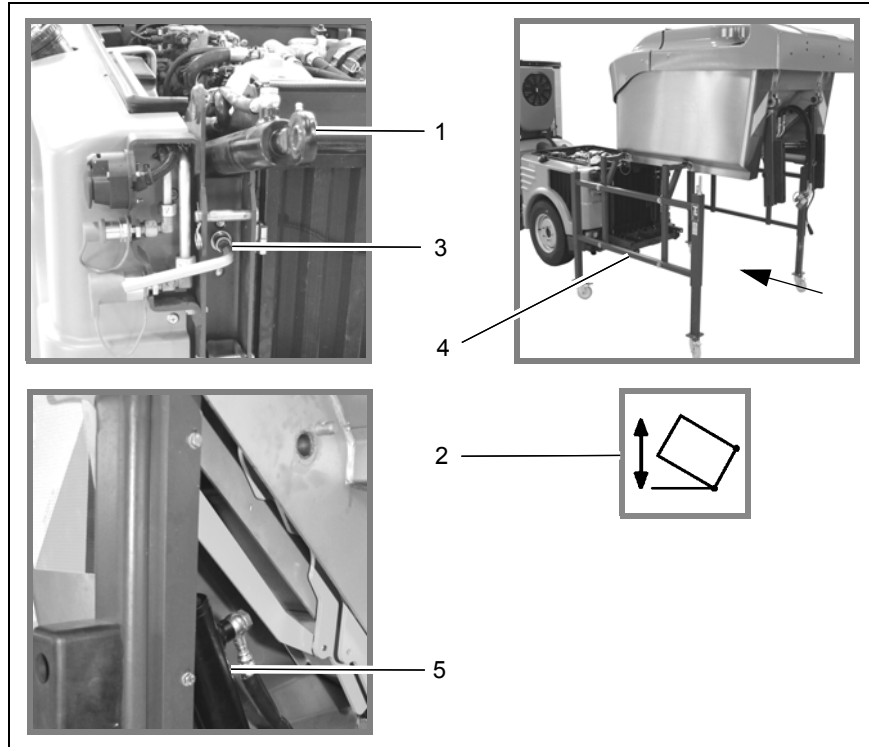

Fig.33
For the installation of the dirt hopper the storage stand (Fig. 33/4) is needed.
1. Fully retract the lifting cylinder (Fig. 33/1) by pressing the key (Fig. 33/2) and carefully fold backwards.
2. Loosen the attachment screws (Fig. 33/3) for support of the dirt hopper.
3. Push the dirt hopper with the storage stand (Fig. 33/4) over the basic vehicle.
4. Fold up the lifting cylinder (Fig. 33/5) and insert it into the u-shaped recesses in the dirt hopper.
17. Remove the storage stand (Fig. 33/4).